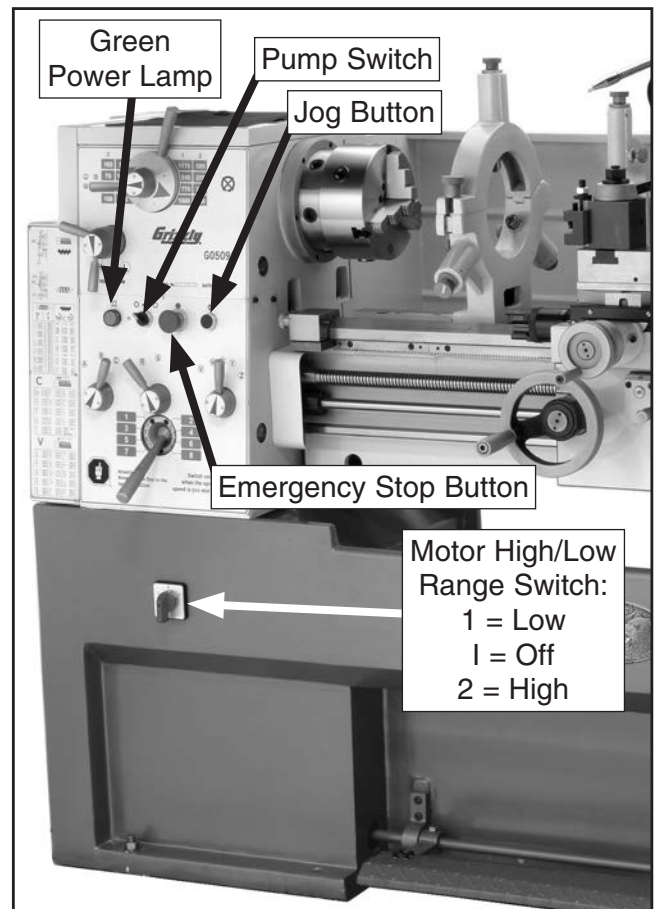

Figure 11. Motor high/low range switch.
4. Twist the red emergency stop button (**Figure 11**) clockwise so it pops out.
6. Make sure the pump switch (**Figure 11**) is in the OFF position, then turn the motor high/low range switch to "1". The green power lamp will glow.
10. Push the jog button (**Figure 11**). The spindle motor will turn **ON** and the chuck will rotate.